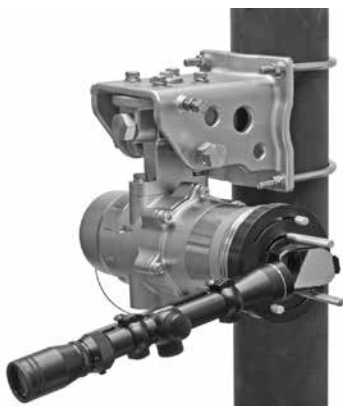

Figure 26—LS2000 with Alignment Tool Installed
6. Attach the Alignment Tool onto the receiver module by inserting the captive thumbscrews into the threaded holes on the faceplate. See Figure 26. Ensure that the alignment tool is properly attached, that the eyepiece is accessible, and that the thumbscrews are completely tightened.